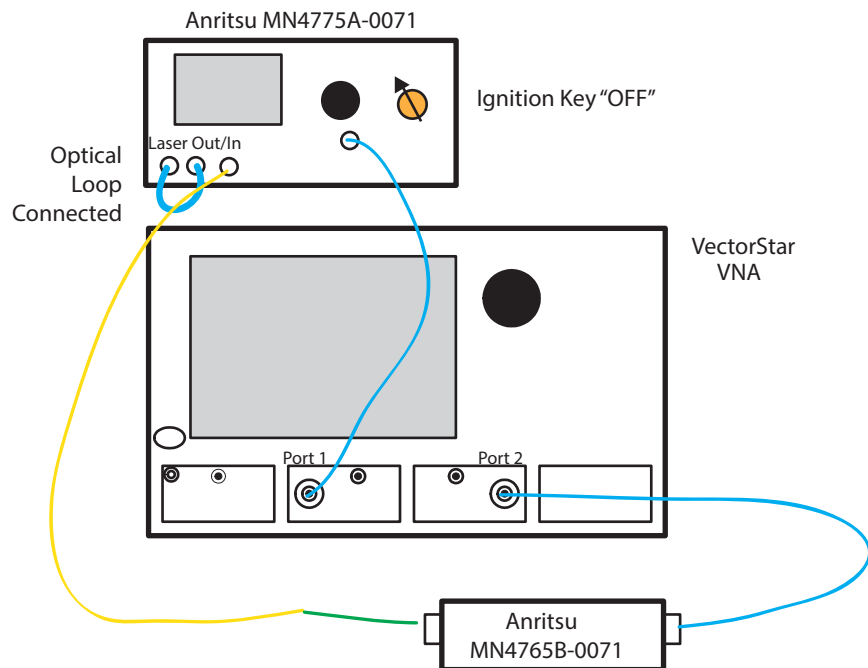

Figure 3-52. Optical Connection to MN4765B-0071
3. Connect **Yellow-colored** end of Optical Patch cable to MN4775A-0071 E/O Converter as shown in Figure 3-52.
4. Connect **Green-colored** end of Optical cable to MN4765B-0071 as shown in Figure 3-52.
5. Connect the VNA Port 1 to Anritsu MN4775A-0071 E/O Converter RF Input as shown in Figure 3-52.
6. Connect Anritsu MN4765B-0071 O/E Module Output to VNA Port 2 as shown in Figure 3-52.
8. Verify that **Optical Loop** is in place on MN4775A-0071 E/O Converter as shown in Figure 3-52.